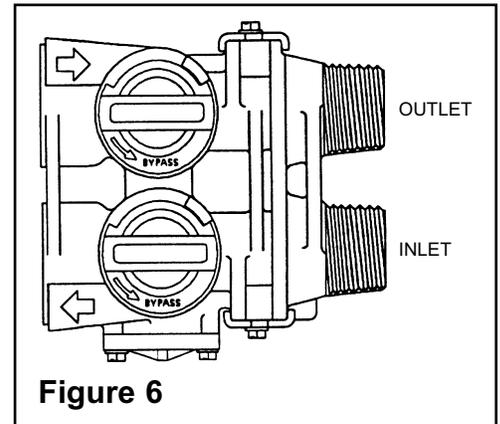

Figure 6
11. Make sure that bypass valve is left in the normal service position (See page 6, Figure 6).
Manual Bypass (Figure 6)